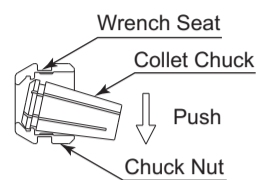

Fig. 6
- The collet chuck and chuck nut are held together by a groove in the collet chuck and a flange in the chuck nut. To remove the collet chuck hold the chuck nut in one hand and push diagonally down on the collet chuck. The collet chuck should pop out. (Fig. 6)
- Install the new collet chuck in the chuck nut by positioning the collet in the chuck nut and pressing down on a flat surface. (Fig. 6)